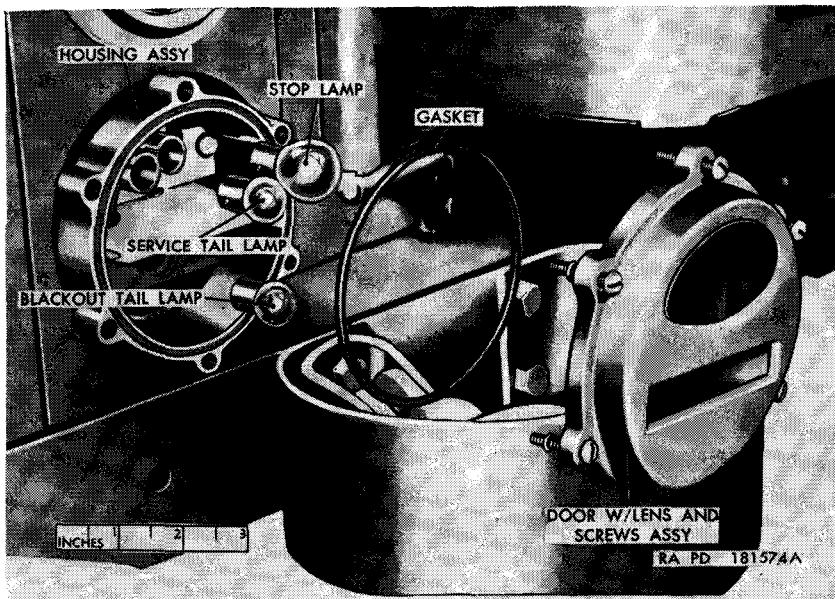

Figure 78. Service taillight and stoplight assembly—partially exploded view.
- (1) Position the mounting pad on the rear of the headlight housing with the mounting holes in the pad alined with those in the housing.
- (2) Position the housing with mounting pad in the radiator grille and secure with eight No. 10 x $\frac{1}{2}$ lockwasher screws (fig. 78).
- (3) Slip the rubber grommet over the headlight cables, and insert cables and grommet in headlight housing.
- (4) Install the headlight sealed lamp-unit (*a(2)* above).
- (2) *Removal.* Remove two cables from the clip on the back of the housing assembly, pull the cables out until the cable connectors are exposed, and uncouple both connectors. Remove two bolts and lockwashers securing the blackout taillight and stoplight assembly and remove the assembly.
- (3) *Installation.* Insert the connectors through the hole in the blackout taillight and stoplight assembly mounting bracket, position the assembly on the bracket, and secure with two $\frac{3}{8}$ x $\frac{5}{8}$ bolts and lockwashers. Couple the connectors in accordance with the cable numbers.
- b. *Service Taillight and Stoplight Assembly (Left)* (fig. 78).
- (1) *Lamp replacement.* Refer to a(1) above.
- (2) *Removal.* Remove two lockwasher screws securing the taillight and trailer connection guard to the body left rear panel. These screws are located near the left rear corner of the body, one screw below the reflector and one above the reflector. Remove two lockwasher screws securing the guard to the body side panel. These screws